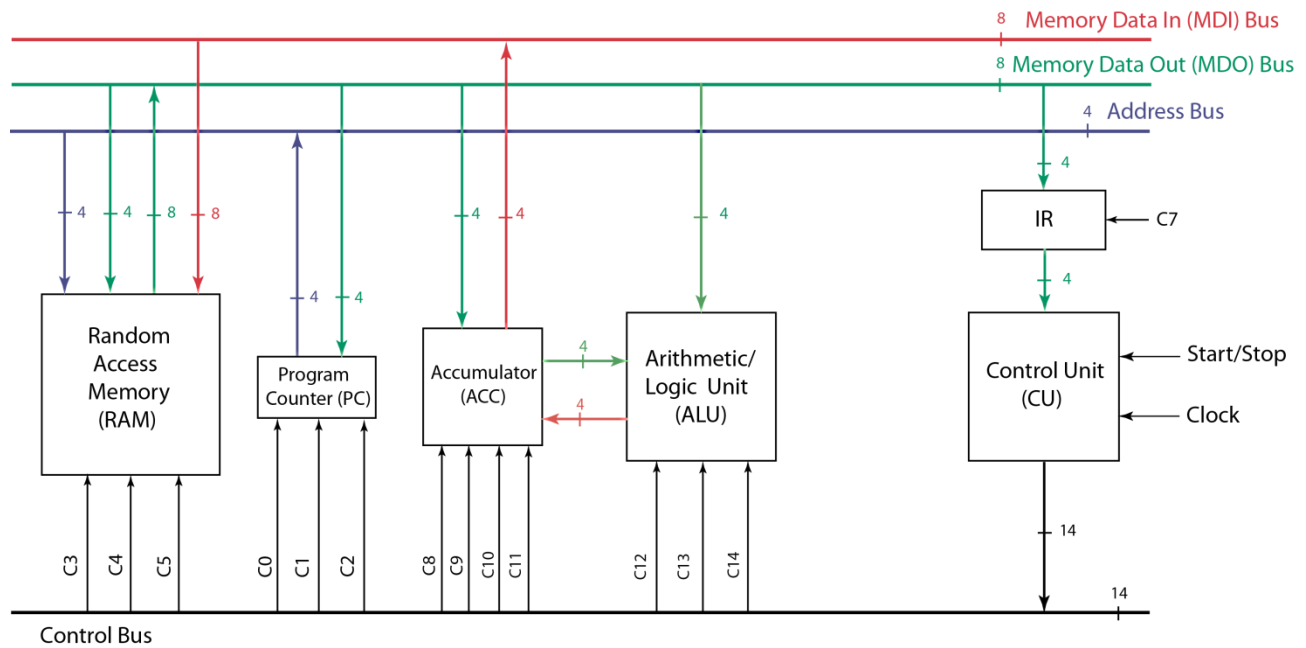

Figure 1 – TRISC for INC, CLR, LDA, STA, ADD, and JMP.
**Project description** – Integrate, on the DE1, the TRISC components that have been completed in the laboratory exercises and homework to implement a functioning processor that can execute programs consisting of INC, CLR, JMP, LDA, STA, and ADD instructions. Only use the components necessary as shown in Figure 1. This will simplify the integration and testing.